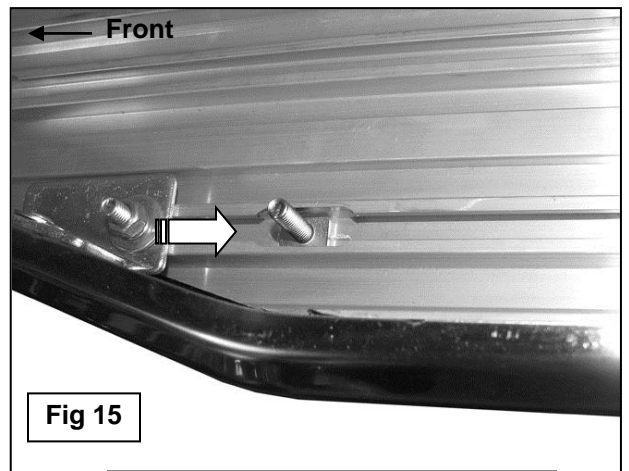
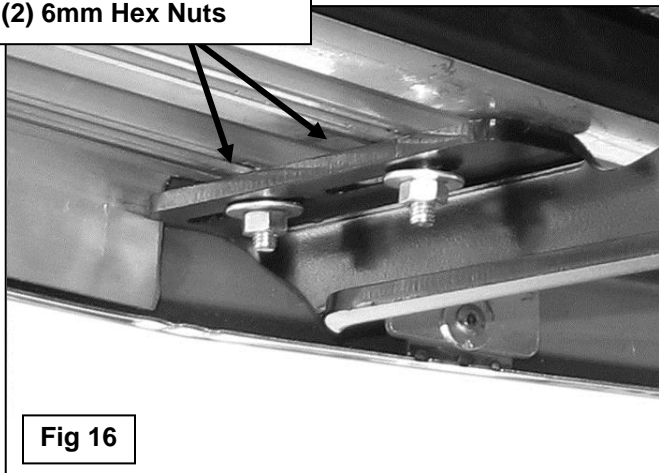

Fig 15
Fig 16
15. Carefully unwrap the driver side Running Board. From the front, slide (3) 6mm T-Bolts into each channel in the bottom of the Running Board, **(Figure 15).** Slide the T-Bolts forward or back to line up with the slots in the (3) Mounting Brackets. Hold the Running Board up to the vehicle at a slight angle and gently push it into position against the rocker panel. Insert the T-Bolts through the slots in the Brackets but leave loose at this time. **NOTE:** It may be necessary to loosen, (but not remove), the Bracket hardware to insert the Running Board between the Brackets and the body. Once the Running Board is in the approximate position and the T-Bolts lined up with the (3) Brackets, attach the Running Board to the Mounting Brackets with the included (6) 6mm Flat Washers, (6) 6mm Lock Washers and (6) 6mm Hex Nuts, **(Figure 16).** Do not tighten hardware.